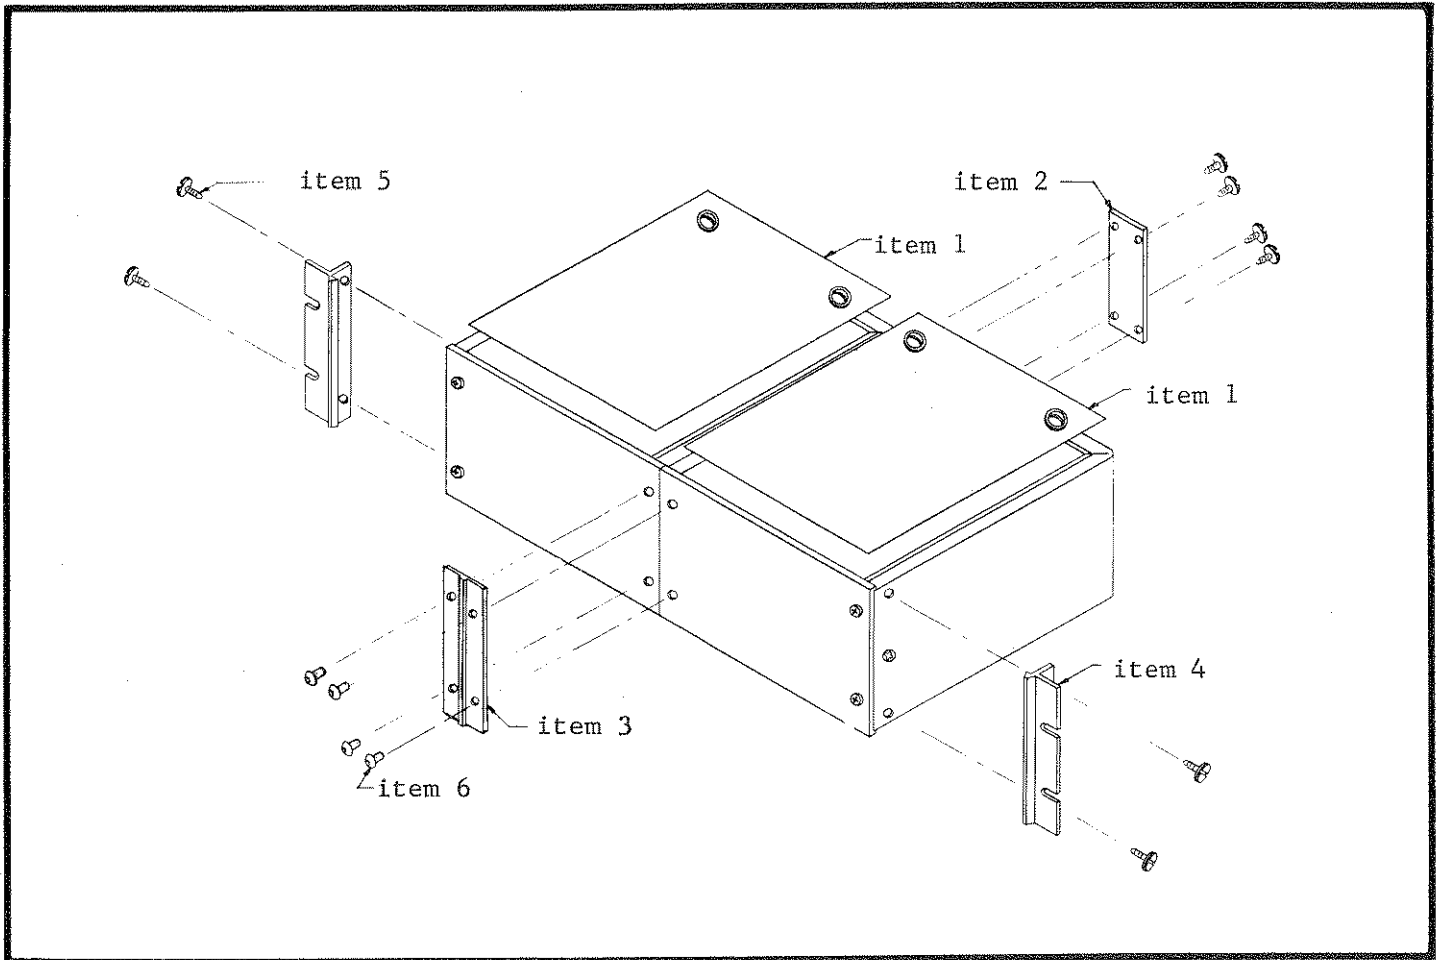

FIGURE 16. Assembly Drawing for Model 4004A Dual Rack Mounting Kit.
b. Procedures. Remove the wrap-around cover on each Source by removing the two corner screws at the bottom of each side. Assemble the rack mounting parts as shown in Figure 16. Attach in this order: cover (1), two rack angles (5), chassis connecting plate (2), and chassis connecting plate (3).